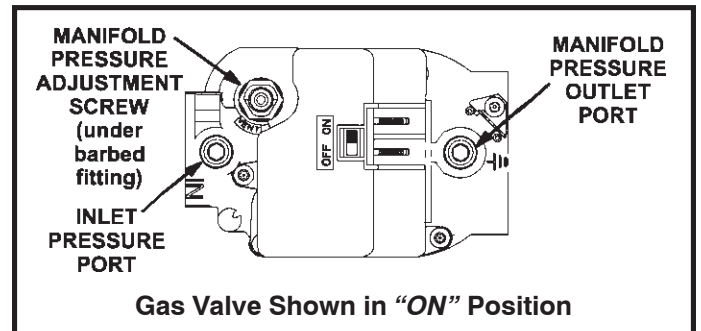

Figure 26
Gas Valve Operation (Figure 26)
6. Move switch on gas valve to OFF. Do not force. See Figure 26.
8. Move switch on gas valve to **ON**. Do not force. See Figure 26.